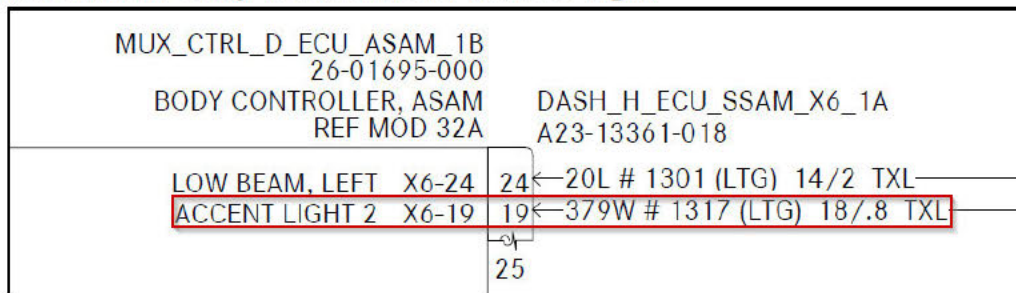

Fig. 1 Removing Circuit 379W
3. Remove circuit 379W from cavity 19 of connector X6. See Fig.1.